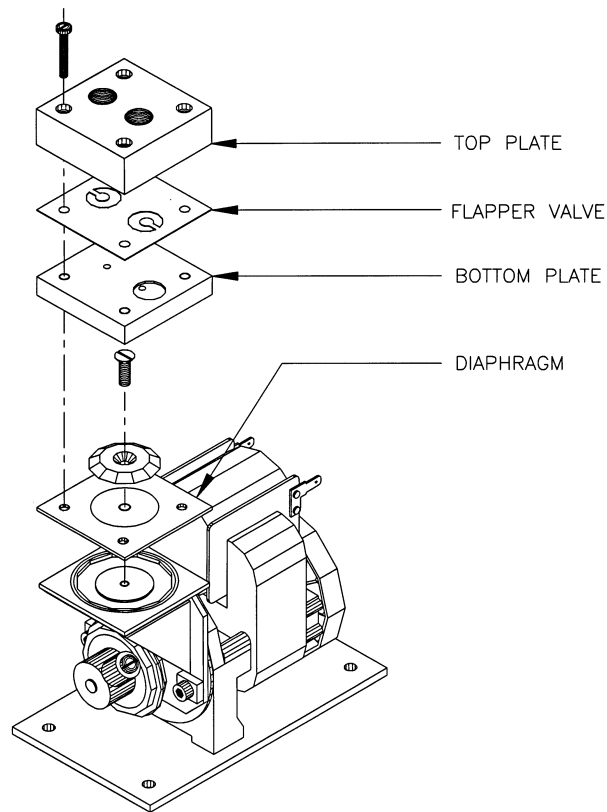

Figure 7-3. Pump Assembly
5. Remove four screws from the top plate, remove the top plate, flapper valve, and the bottom plate (see Figure 7-3).
4. Locate the lamp housing and trigger pak (see Figure 7-3).